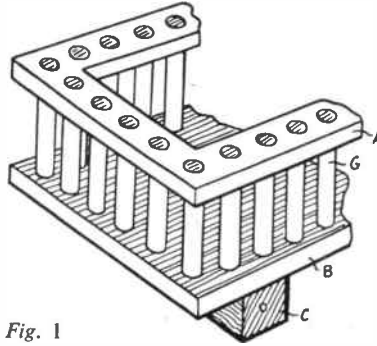

Fig. 1
The holes to take the upright dowels are drilled at intervals of approximately $\frac{1}{4}$ in. It is advisable to drill them in piece (A) before cutting out the centre. Assemble the wagon as shown in Fig. 1, using glue for all the joints. Fig. 1 also